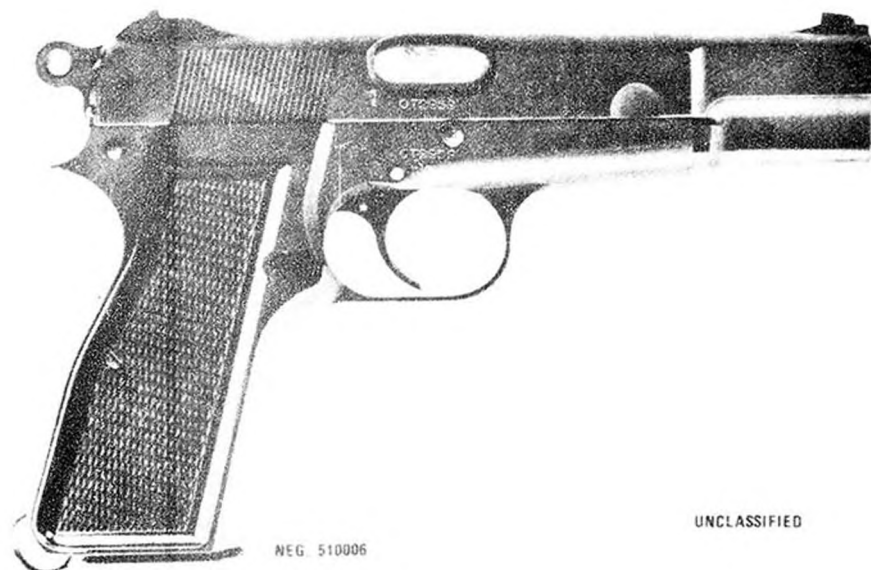

Figure 7. Canadian No. 2 Mk 1* pistol.
(3) The Canadian model, similar to the basic model (1) above, but with a prominent hump on the slide for the rear sight (fig 7). The No. 2 Mk 1 and No. 2 Mk 1* pistols conform to this pattern. The No. 2 Mk 1* is the only model now in use by the UK forces.
stamping on the left side of the slide "PISTOL - AUTOMATIC 9-mm L9A1". Commercial pistols sold to governments in quantity are often found with national crests stamped into the slide. Each Browning High Power usually carries its serial number in three places—on the barrel, visible in the ejection port; in the slide, directly below the ejection port; and on the receiver, directly below the slide number (fig 7). These numbers should agree. If they differ, the pistol has been assembled from parts of different pistols.